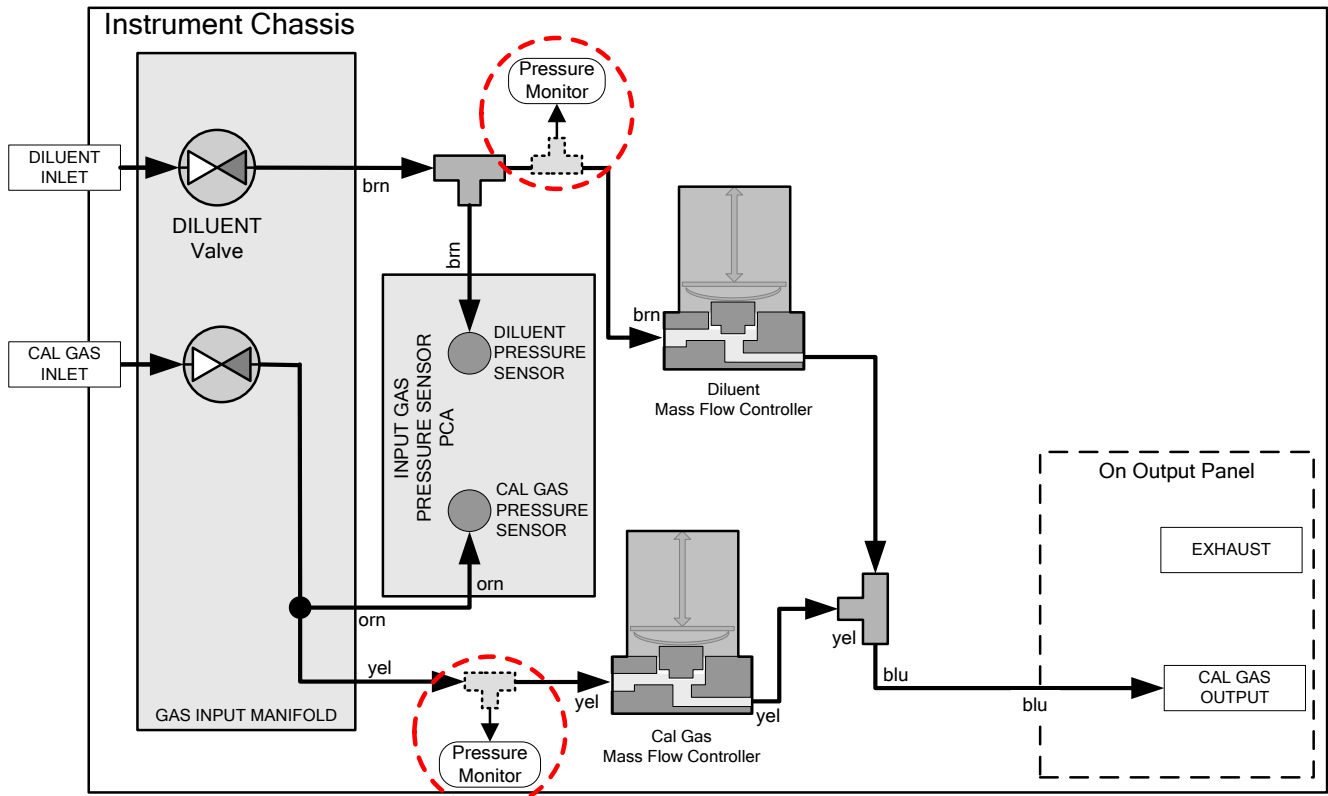

Figure 7-6: Pressure Monitor Points – T750 – Basic Unit
2. For the sensor being calibrated, insert a “T” pneumatic connector at the location described in Table 7-2 and shown in Figure 7-6 and Figure 7-7.